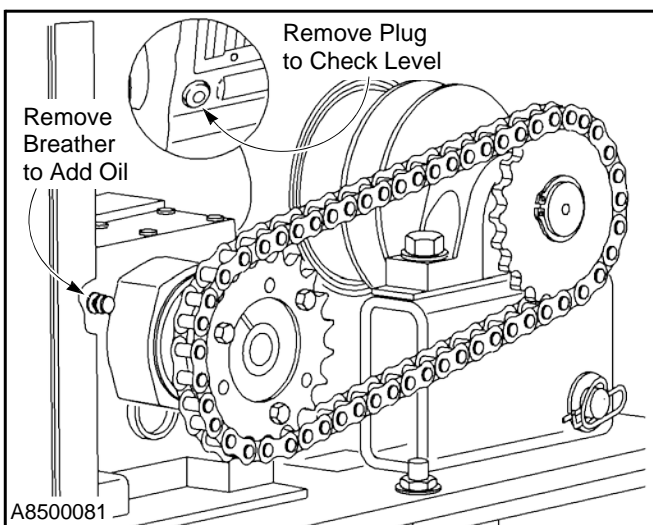

Figure 21
5. **Drive Motor Gearbox Assembly:** The oil level in the gearbox should be checked regularly. The oil level is checked at the plug located on the gearbox. (See Figure 21)